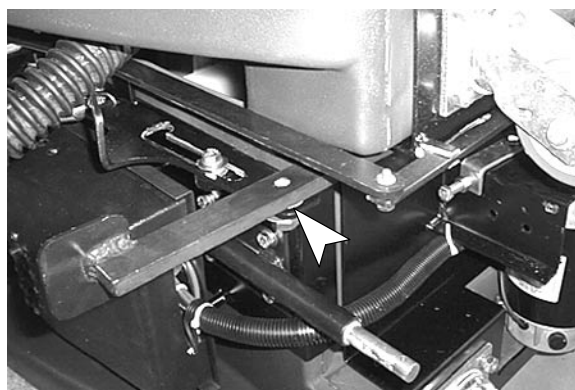

Fig. 9
8. Remove the rear mounting screw from the scrub head lift pedal, 3/4" wrench required (Figure 9).